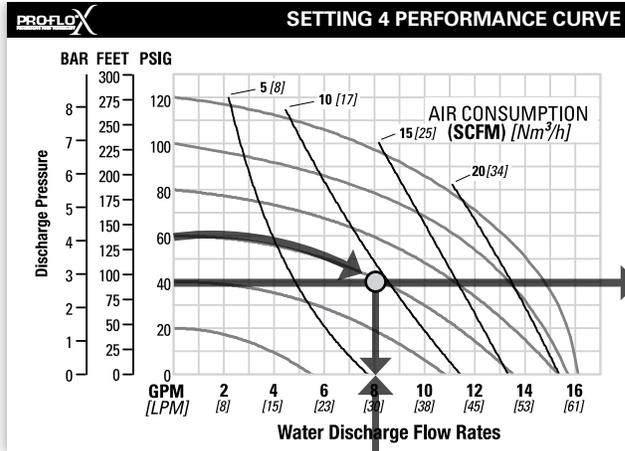

Figure 1
FIGURE 1 The air valve directs pressurized air to the back side of diaphragm A. The compressed air is applied directly to the liquid column separated by elastomeric diaphragms. The diaphragm acts as a separation membrane between the compressed air and liquid, balancing the load and removing mechanical stress from the diaphragm. The compressed air moves the diaphragm away from the center of the pump. The opposite diaphragm is pulled in by the shaft connected to the pressurized diaphragm. Diaphragm B is on its suction stroke; air behind the diaphragm has been forced out to atmosphere through the exhaust port of the pump. The movement of diaphragm B toward the center of the pump creates a vacuum within chamber B. Atmospheric pressure forces fluid into the inlet manifold forcing the inlet valve ball off its seat. Liquid is free to move past the inlet valve ball and fill the liquid chamber (see shaded area).
Step 1: Identifying performance at setting 4. Locate the curve that represents the flow rate of the pump with 4.1 bar (60 psig) air inlet pressure. Mark the point where this curve crosses the horizontal line representing 2.8 bar (40 psig) discharge pressure (Figure 1). After locating your performance point on the flow curve, draw a vertical line downward until reaching the bottom scale on the chart. Identify the flow rate (in this case, 8.2 gpm). Observe location of performance point relative to air consumption curves and approximate air consumption value (in this case, 9.8 scfm).